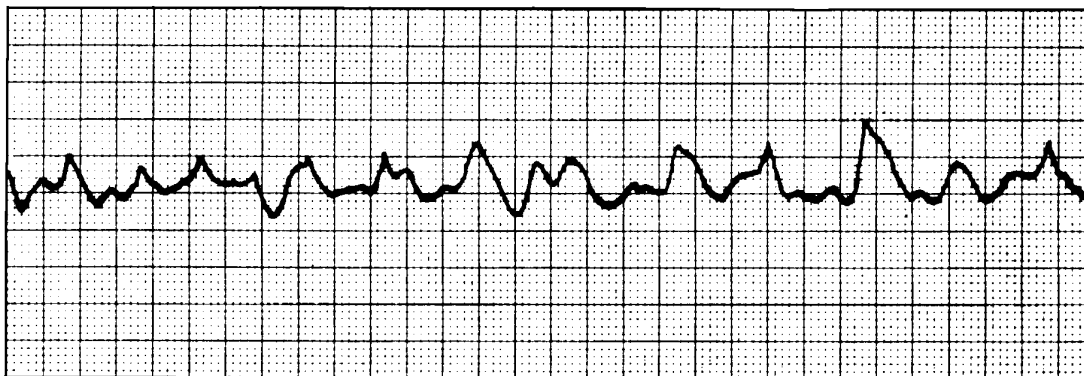

Figure 3-4
- (a) Ventricular Fibrillation. V-Fib is an irregular and chaotic ventricular arrhythmia characterized by a rapid rate and disorganized conduction of impulses throughout the ventricular myocardium. Death will occur within minutes without immediate defibrillation or initiation of CPR (see Figure 3-4).